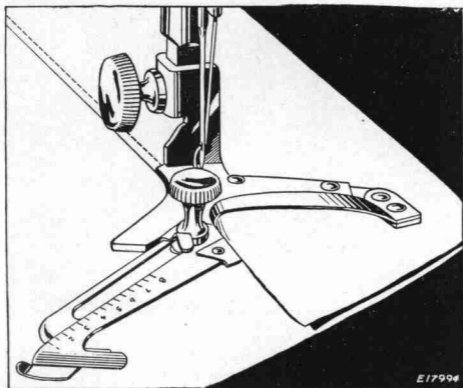

FIG. 43. SHOWING HOW ADJUSTABLE HEMMER IS USED FOR MAKING HEMS WIDER THAN 15/16 INCH
- (1) Loosen the thumb screw on the hemmer, move the scale to the right as far as it will go, then swing it toward you, as shown in **Fig. 43**, and tighten the thumb screw.
- (2) Fold and crease the desired width of hem.
- (3) Place the fold under the extension at the right of the hemmer and the edge into the folder, as shown in **Fig. 43**.
- (4) Draw the end of the hem back under the needle, lower the presser bar and commence to sew.
- (5) Guide the cloth to keep the hem flat.